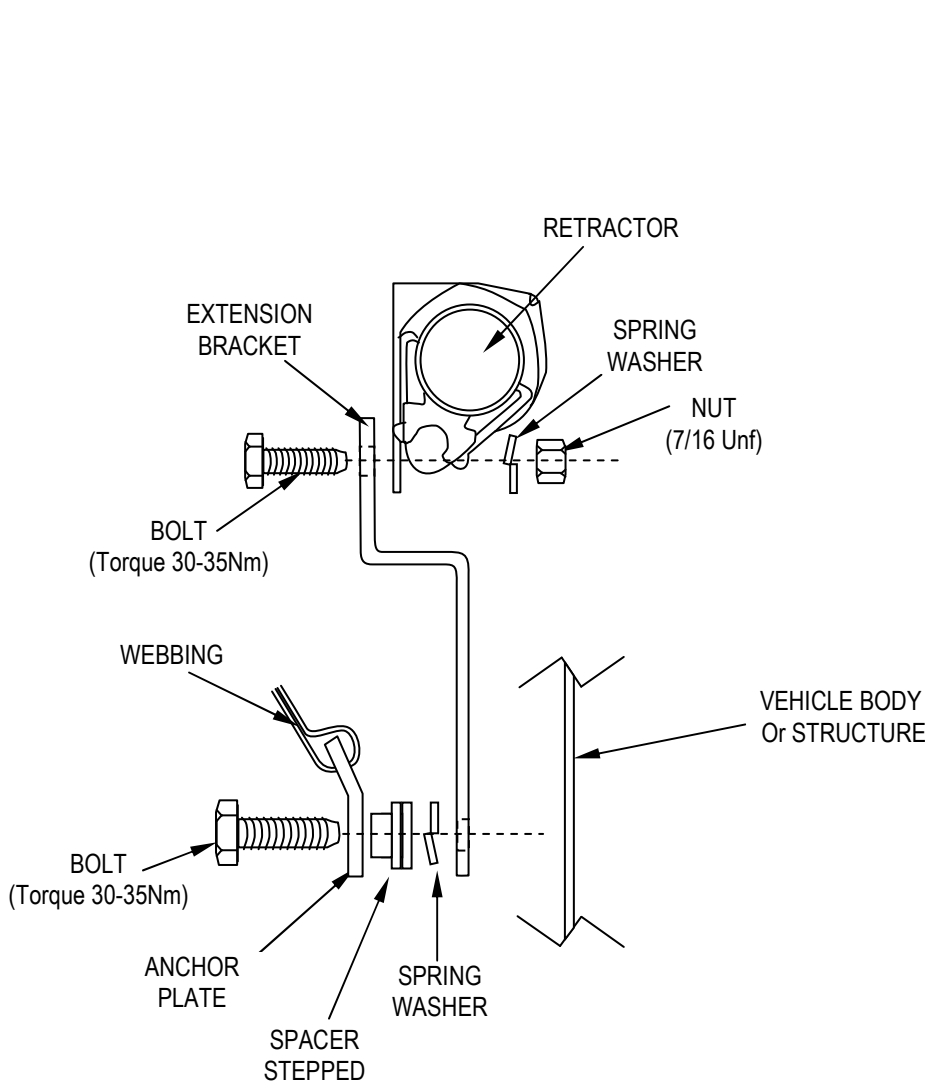

FIGURE 2
- Use the Extension bracket to attach the retractor as shown in Fig. 2.
- Where required the anchor plate can also be attached to the Extension bracket as shown. (Fig. 2).